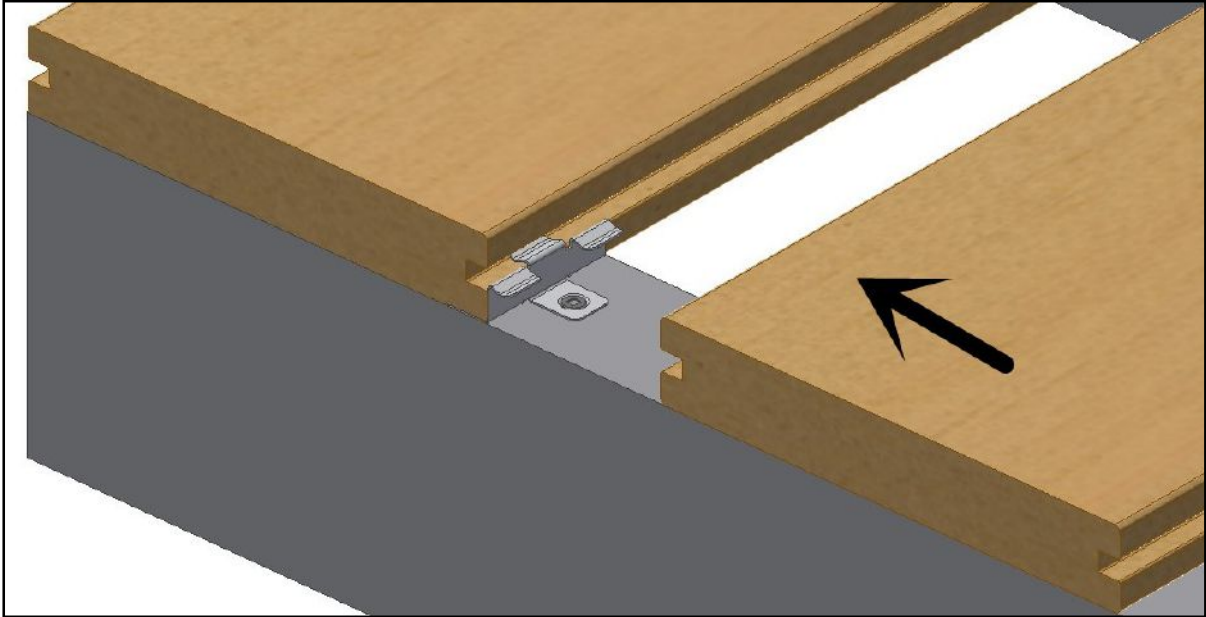

Figure 10
3. As shown in the Figure 10, push the next board into position.